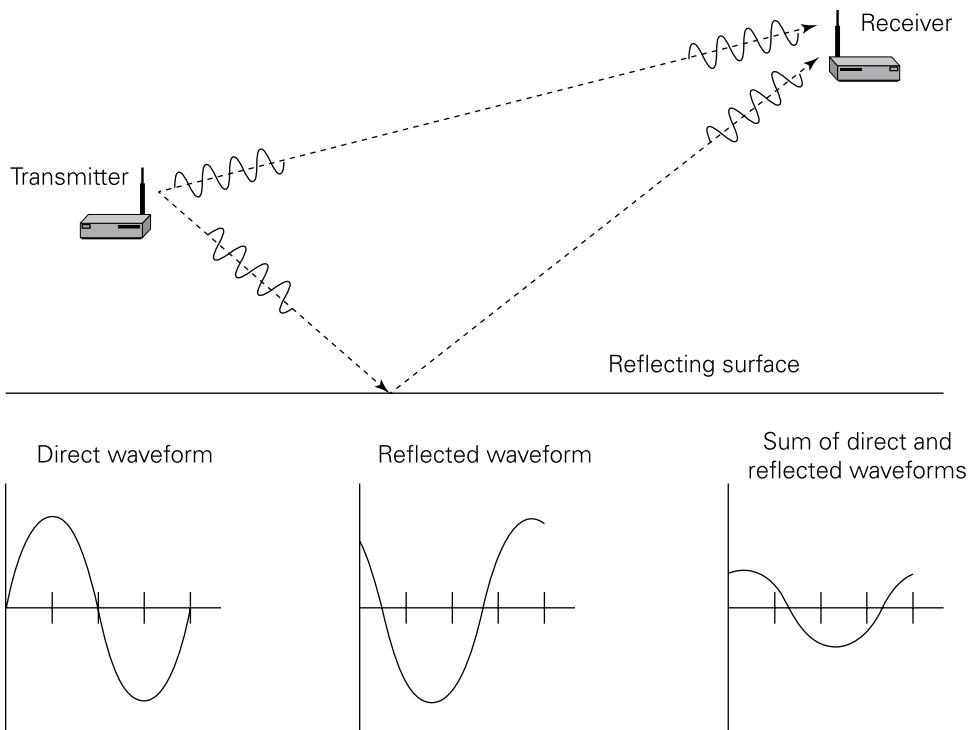

FIGURE 7-15: Multipath interference
Microwaves are electromagnetic radiation, and may be reflected as they travel from transmitter to receiver. Wi-Fi signals bounce off walls, floors, ceilings and large objects, especially objects made of metal. This causes multiple wavefronts to arrive at the receiver along paths of different lengths, and thus at (very) slightly different times. If two or more wavefronts arrive precisely "in phase" they can theoretically boost signal strength at the receive antenna. However, in virtually all cases, the many wavefronts interfere with one another in unpredictable ways, causing *fading*. Even worse, multipath fading effects can be strongly frequency-dependent, causing not just fading but distortion of wideband signals. Figure 7-15 illustrates multipath interference.
- Time-delayed reflections of signals (multipath interference; refer to Figure 7-15)